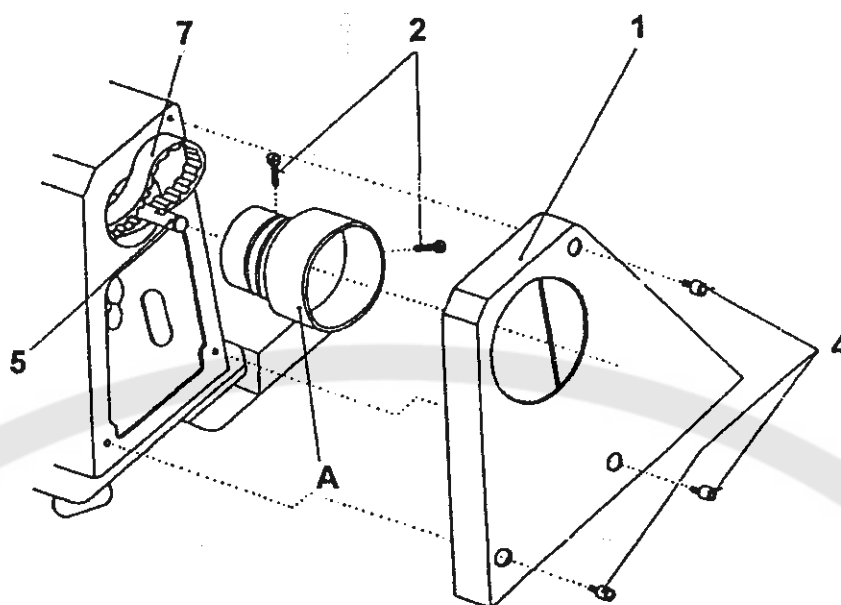

Fig. 3
4. V-belt and its tension (Fig. 3)